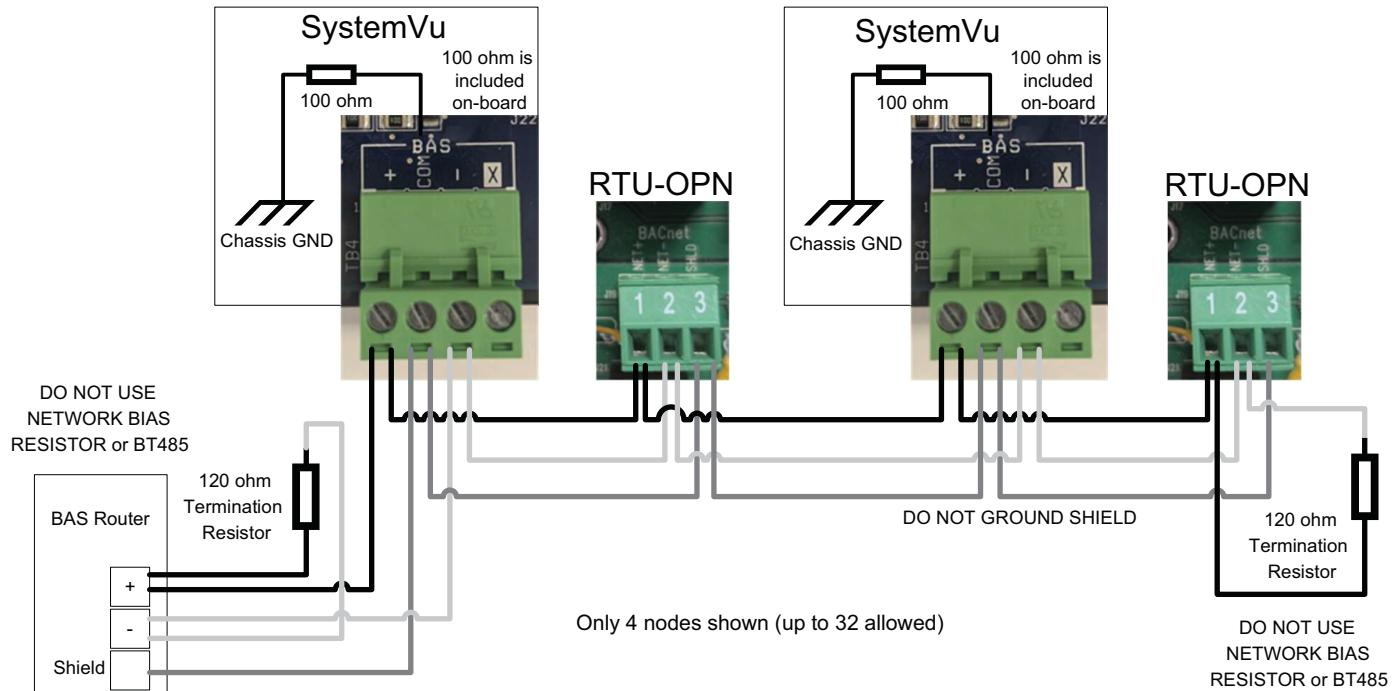

Fig. 7 – BACnet Wiring on Mixed Device Network
4. Insert the wires into the appropriate terminal block (see Fig. 7 and 8 on page 6). Take care the drain wire is electrically isolated, where exposed.
SystemVu controllers should have the BAS wiring connected to plus, minus, and the shield wire to COM as shown in Fig. 7 and 8.